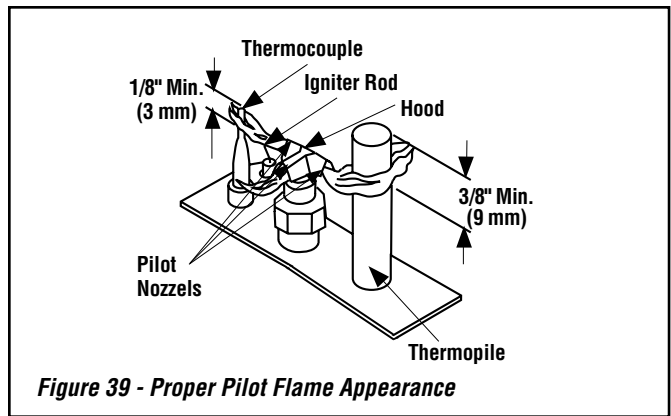

Figure 39 - Proper Pilot Flame Appearance
- ❑ Inspect the pilot system for proper flame (see *Figure 39*). NEVER ADJUST THE PILOT until after the gas pressure has been checked and the supply lines have been completely bled (this may take an hour or more when bleeding through the pilot). All pilots are checked and burned at the factory prior to shipment. The pilot adjustment screw is located below the ON/OFF/PILOT control knob. Remove the pilot adjusting cover with a flat-bladed screwdriver to access the pilot adjusting screw. Adjust the pilot screw to properly size the flames. The flames should directly contact the thermopile and extend across the main burner ports. Be careful not to back the screw out of its threads. Replace the cover and check for gas leaks using a gas leak test solution.